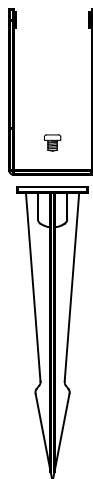

Fig 2.3
2.3 Insert the spike the into ground, fix the bracket on the top of spike by the M5 screw. (See Fig 2.3)